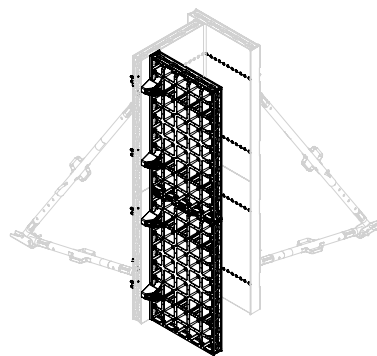

Fig. C1.08
8. In the same way, pre-assemble the third and fourth panel units with DUO 135 chamfer strips (29) and connect with the DUO corner connector (23). (Fig. C1.08 + C1.09)